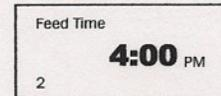

FIGURE 5
STEP 5: The display should now show FIGURE 4. Note the number 1 in the lower left side of the display. This is still concerning your number 1 feeding. **Speed** – refers to the speed of the motor. There are 3 possible speeds of the motor: 50%, 75%, and 100%. The 100% is used most often in the field and is therefore factory set to automatically show on the screen. If this speed is not desired simply use the up or down arrow buttons to set the speed you would like to use. With the standard factory installed spinplate, 100% speed will throw approximately 75 to 80 feet. The 75% setting will throw approximately 40 feet. The 50% setting will throw 10 to 15 feet. After the correct speed is displayed, press the SELECT/ENTER button one time. The display should now show FIGURE 5.
STEP 6: At this point, your display should appear similar to FIGURE 5. The number 2 in the lower left hand bottom of the display indicates the second feed time. The 4:00pm is factory preset, and is another very common time to feed. If this is not the time you would like, press the up or down key to set the desired time for the second feeding. Once set press the SELECT/ENTER button one time.